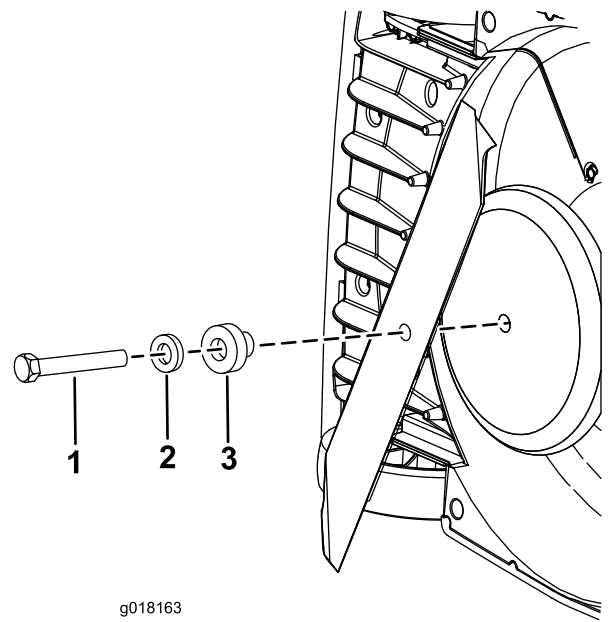

Figure 23
5. Remove the bolt, washer, and spacer, then remove the blade (Figure 23).
7. Secure the new blade in place with the bolt, washer, and spacer that you removed previously (Figure 23).